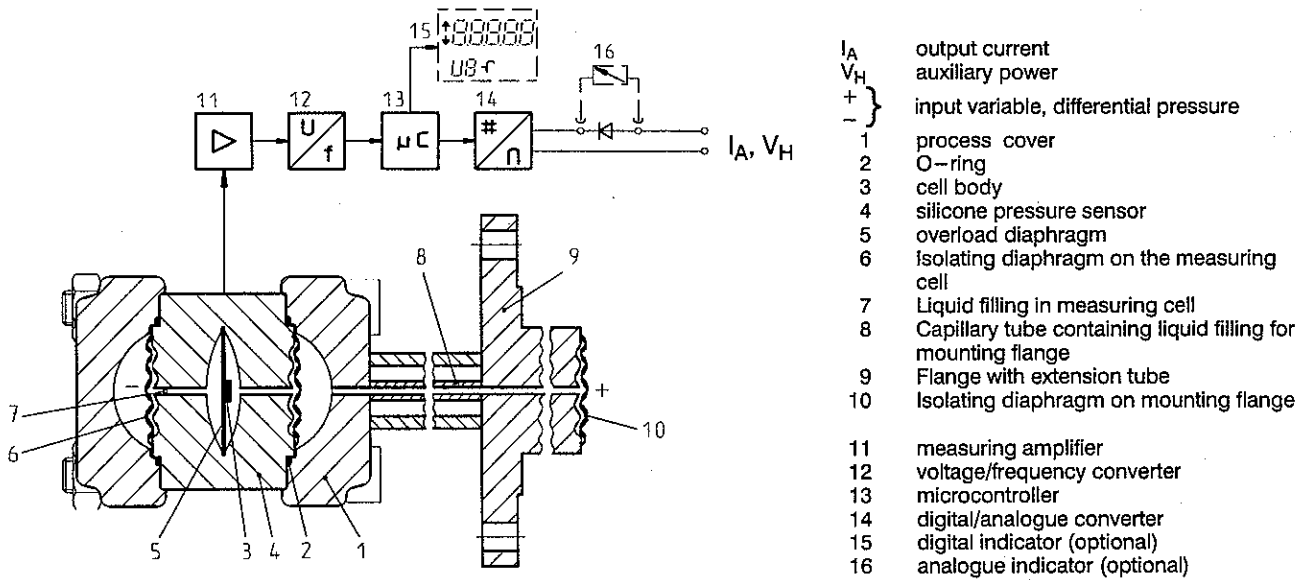

Figure 1.1 SITRANS P level transmitter, function diagram
The input pressure (hydrostatic pressure) exerts a pressure on the measuring cell via the isolating diaphragm (10, see Figure 1.1) on the mounting flange. The differential pressure is transmitted to a silicone pressure sensor (4) through the diaphragms (6) and a liquid filling (7). If the pressure is too high, the overload diaphragm (5) is distorted until one of the diaphragms touches the body of the measuring cell (3), thus protecting the sensor (4) from overloads.